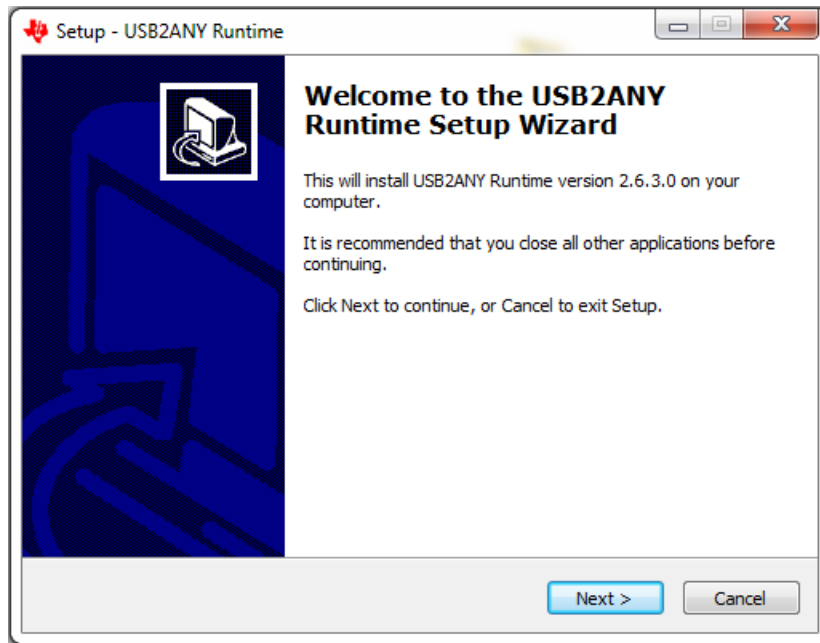

Figure 22. USB2ANY Installation Initialization
- A screen as shown in Figure 22 appears, click the **Next >** button to proceed.